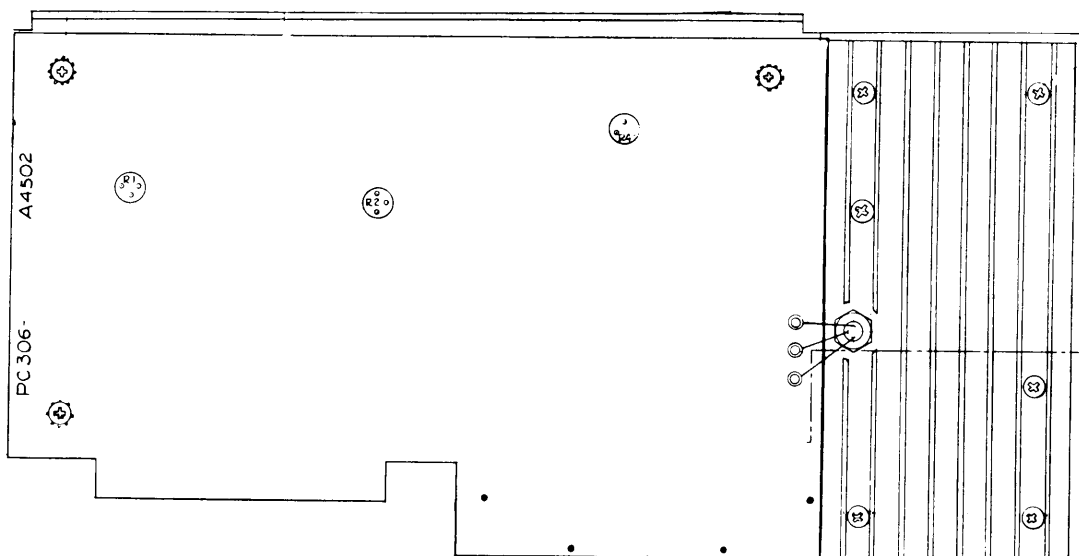

Figure 5-15. RF Output Z115, Adjustments
- (7) Adjust C41 for maximum meter deflection.
- (8) Vary the front panel selectors from 11.0000 to 20.0000 MHz in 1 MHz steps. The VTVM shall indicate 40 millivolts RMS minimum throughout the range. If not slightly adjust C41 (with front panel selectors at 15.0000 MHz) until gain can be equalized across the band (as closely as possible).
- (9) Set the front panel selectors to 05.0000 MHz.
- (10) Connect the rf VTVM Millivac MV28B to J111 pin 3.
- (11) Adjust C62 for maximum meter deflection.
- (12) Vary the front panel selectors from 01.0000 to 10.0000 MHz in 1 MHz steps. The VTVM shall indicate 40 millivolts RMS minimum throughout the range. If not slightly adjust C62 (with front panel selectors at 05.0000 MHz) until the gain can be equalized across the band (as closely as possible).
o. RF OUTPUT Z115. (See figure 5-15.)